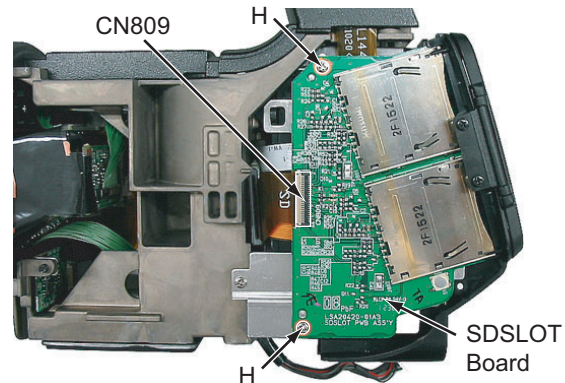

Fig.11
3.1.4 Removing the SDSLOT board (See Figure 11)